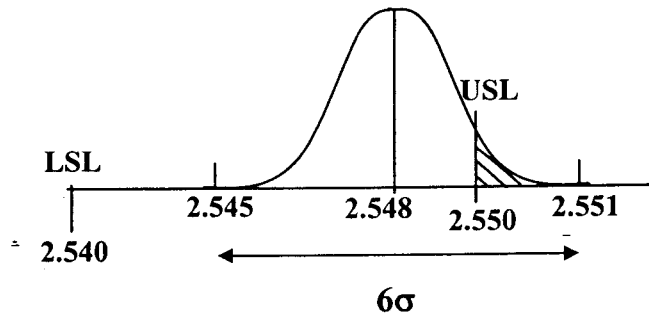

Figure Q6[b]
- [b] Figure Q6[b] is a normal distribution curve obtained from a particular process. Based on the curve, determine the following: